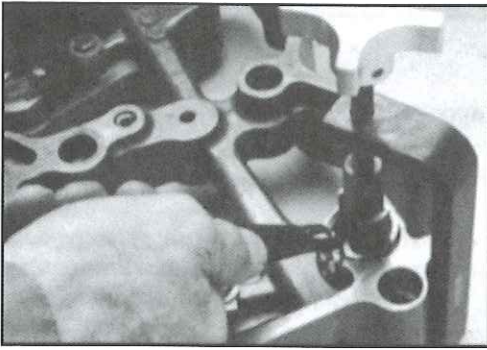

Fig. 42
6. Remove the retaining ring (Fig. 42). Use retaining ring pliers. Back out the holder until the springs are loose. Remove fixture.